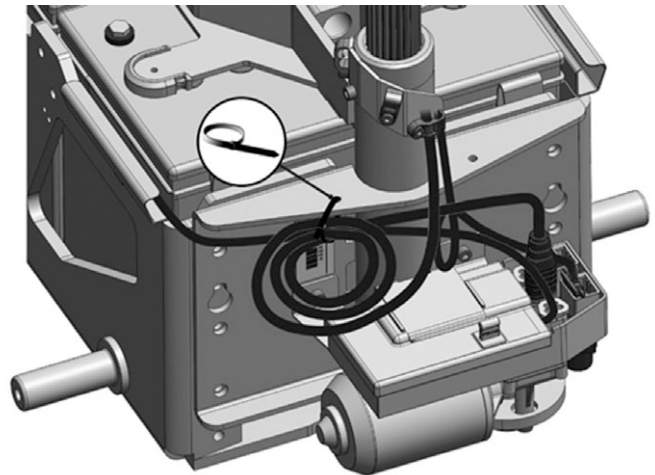

Figure 151. The rest of the cable is tied with a cable tie.
15. The rest of the cables are tied into a loop with a cable tie. See fig. 151.